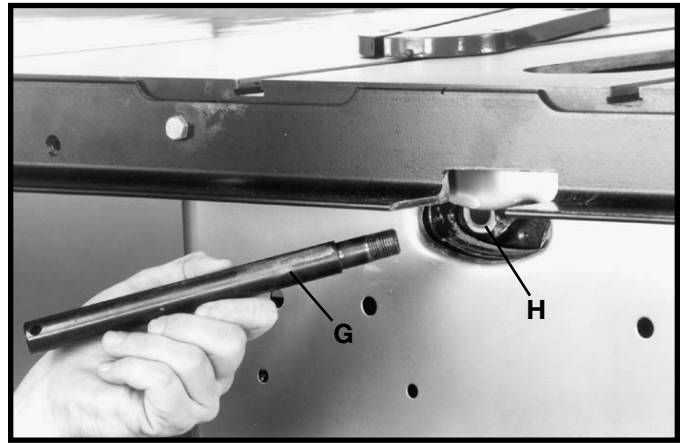
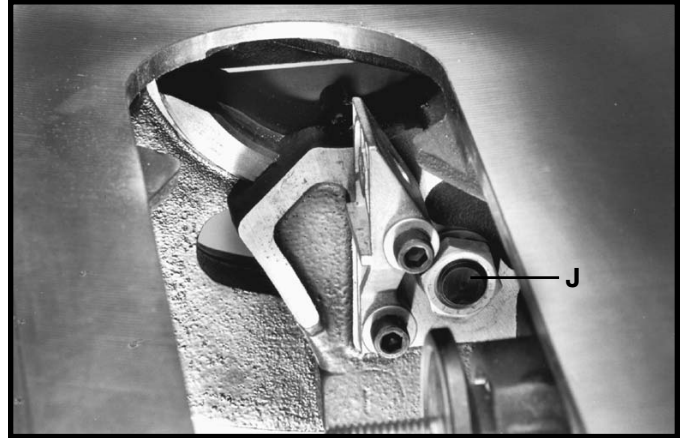
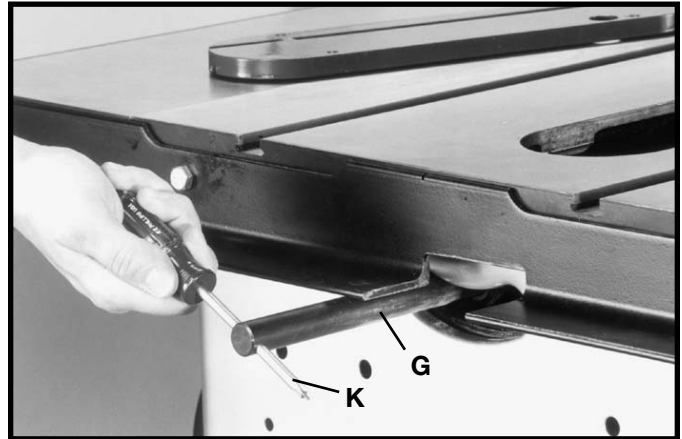

Fig. 26
Fig. 27
Fig. 28
5. Insert threaded end of support rod (G) Fig. 26, through slot in rear of saw and into hole in rear trunnion (H). Fasten support rod (G) to trunnion with star washer and hex nut (J) Fig. 27. **NOTE:** Thread nut (J) Fig. 27, onto threads of support rod (G) as much as possible by hand.
6. Using a wrench to hold the hex nut (J) Fig. 27, tighten rod (G) Fig. 28, with a small screwdriver (K) or similar device through the hole in the end of the rod as shown.